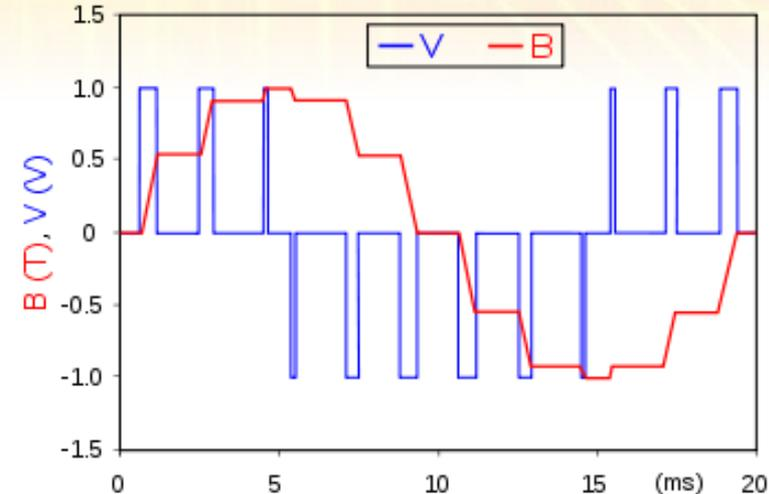

Fig 1
- Produces the effect of a analog output (Fig 1, red) by changing the width (sometimes also the polarity) of a train of pulses (Fig 1, blue)